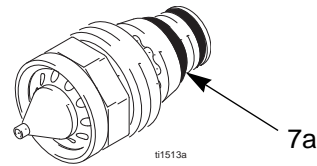

Fig. 22. Nozzle Conductive O-Ring
6. Make sure the metal contact (C) in the barrel, the nozzle contact ring (7a, FIG. 22.), and the electrode contact (E) are clean and undamaged.